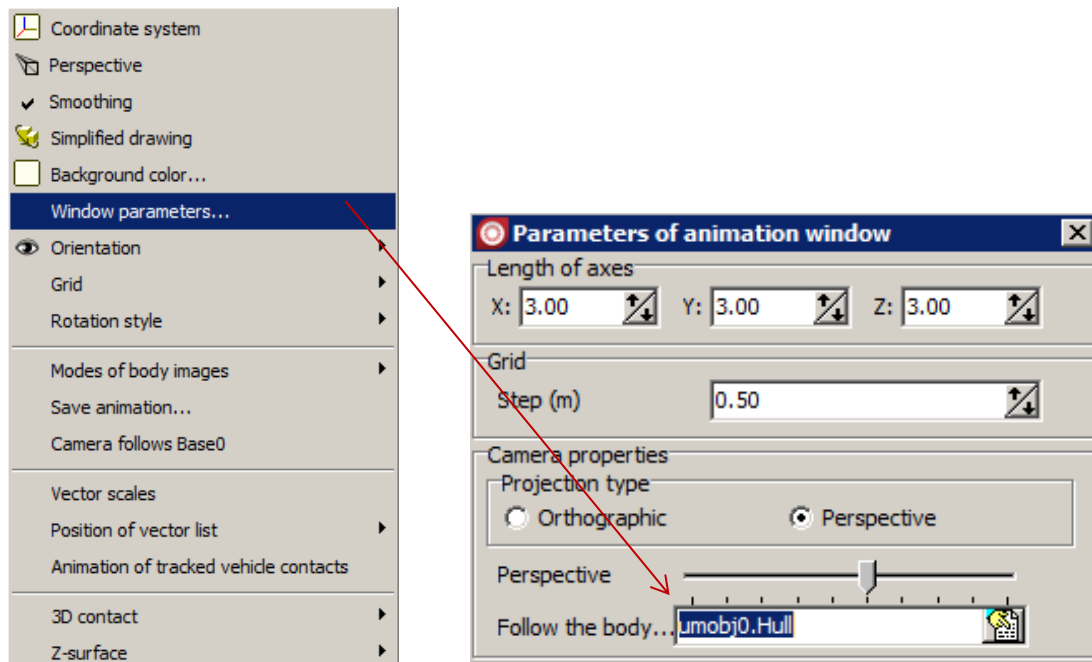

Figure 2.23. Setting camera motion
3. Open an animation window and assign the camera motion mode to keep the TV within the window. Move the mouse cursor to the hull image, click the right mouse button, and select the **Window parameters -> Follow the body-> Hull**, Figure 2.23.